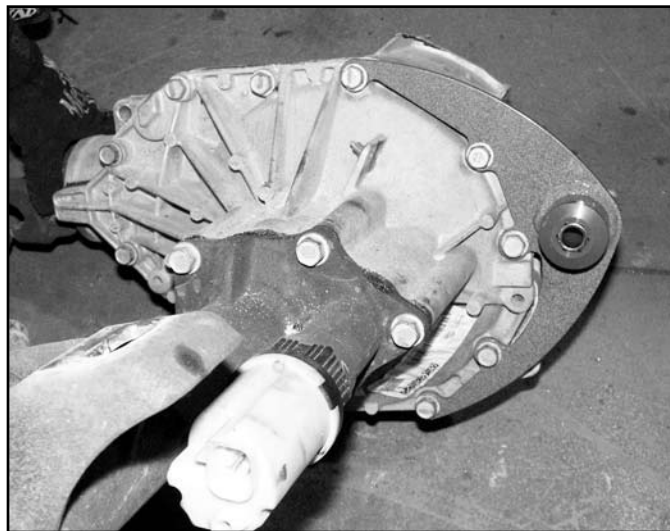

Fig. 12A
35. Install the bushings (3624RB) and $\frac{3}{4}$ " x 2.955" sleeve (15-1) in the new differential bracket (01185). Line the bracket up to the differential case bolts to determine which five bolts to remove. Remove the appropriate bolts and install the bracket with five 10mm x 60mm bolts and 10mm flat washers from bolt pack #539 (Fig 12A). Use Loctite on the threads and torque to 30 ft-lbs.